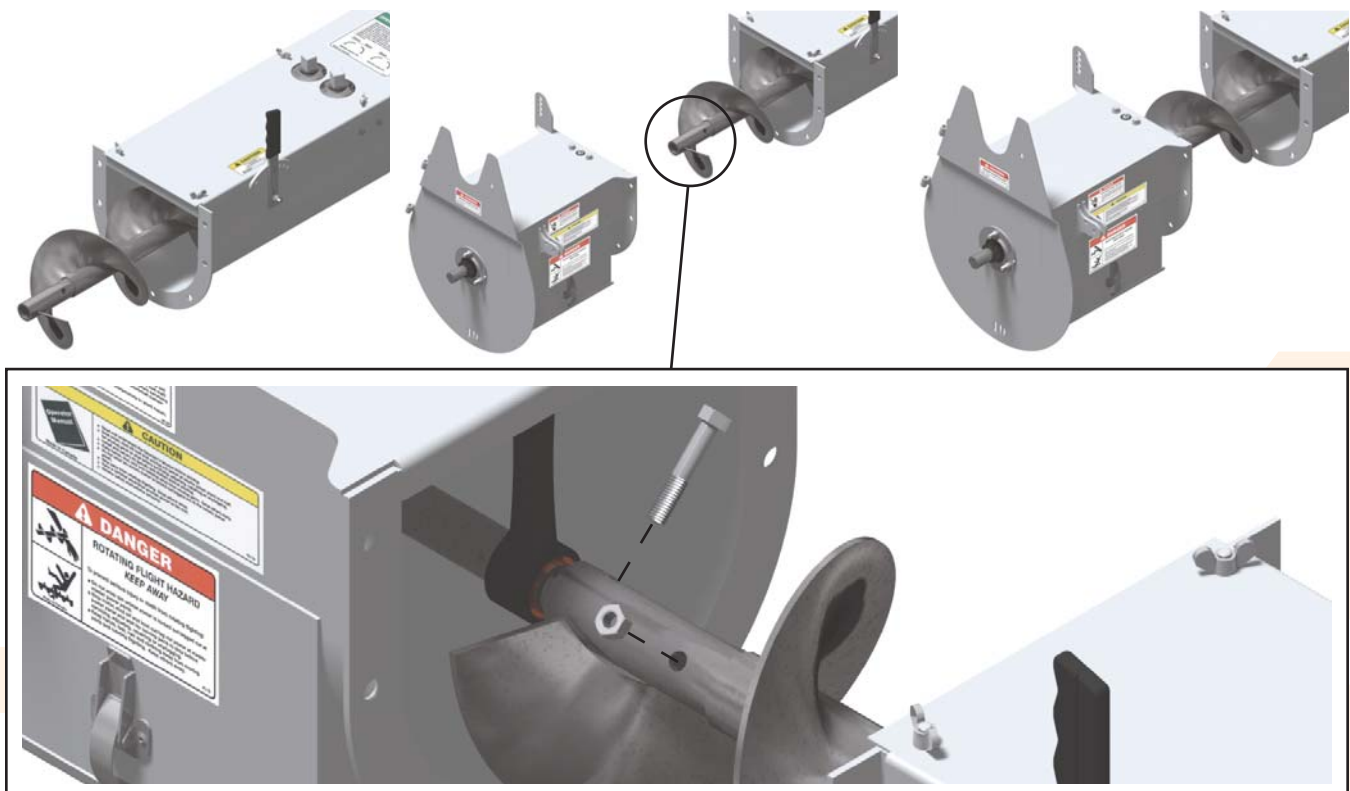

Figure 42
Locate the Powerhead Assembly and slide the Powerhead driveshaft into the U-Trough Flighting. (see **Figure 42**). Using two (2) 7/16" x 2 1/2" Bolts and two (2) 7/16" Nylon Locknuts, secure the U-Trough Flighting to the Powerhead shaft. (see **Figure 42**)